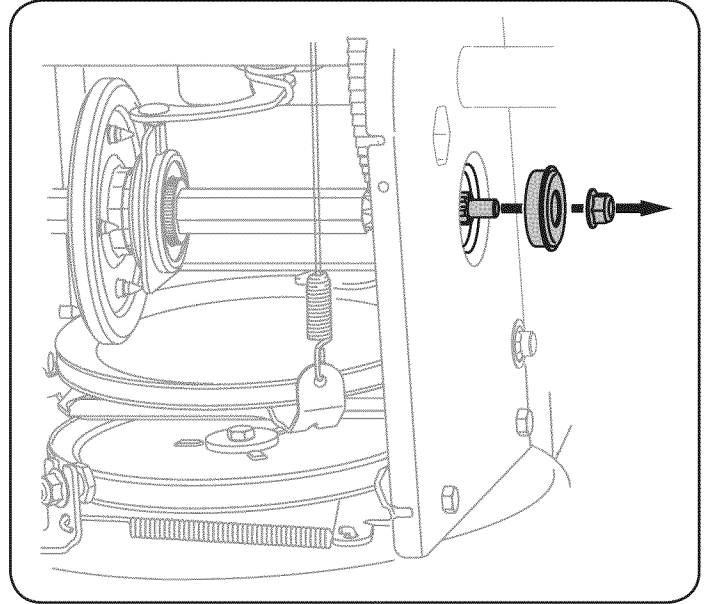

Figure 35
- Carefully remove the hex nut and washer which secures the hex shaft to the snow thrower frame and lightly tap the shaft's end to dislodge the ball bearing from the right side of the frame. See Figure 35.